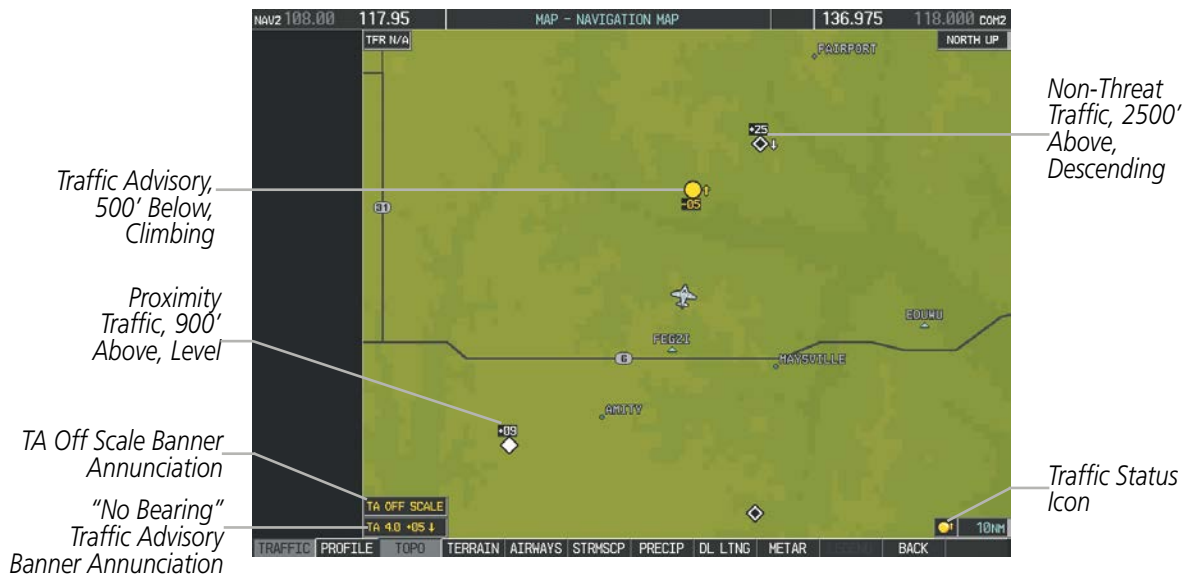

Figure 6-173 TAS Traffic on Navigation Map
When traffic is selected on maps other than the Traffic Map Page, a traffic icon is shown to indicate traffic is enabled for display (Figure 6-173).
- 2) Press the **TRAFFIC** Softkey. Traffic is now displayed on the map as shown in Figure 6-173.